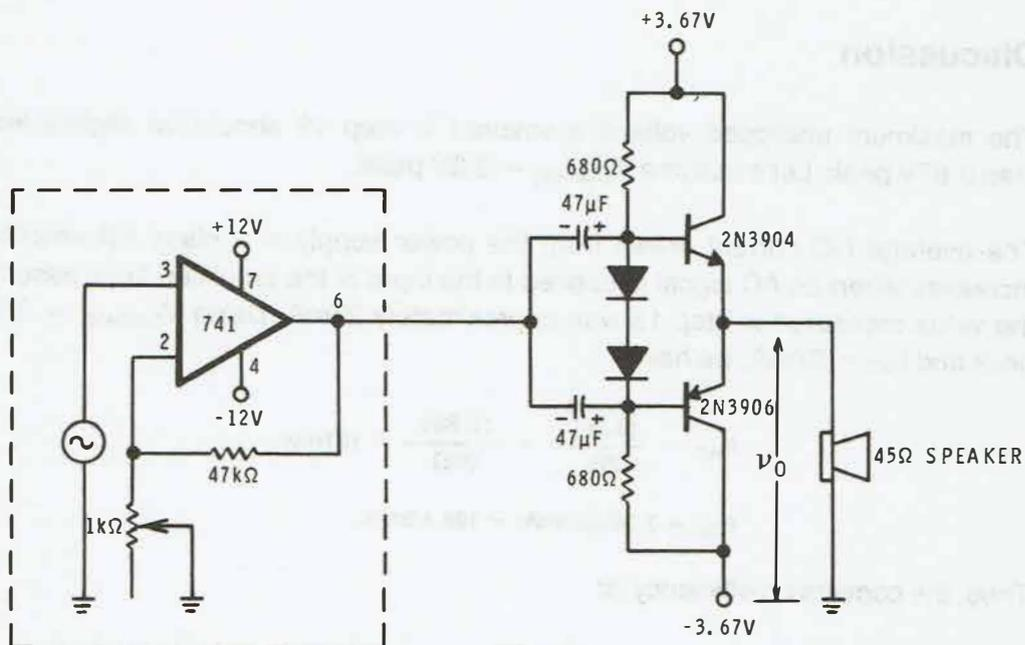

Figure E9-2
18. Modify the circuit as shown in Figure E9-2. Since this is a dual-supply circuit, the 470 μ F output coupling capacitor is no longer required.